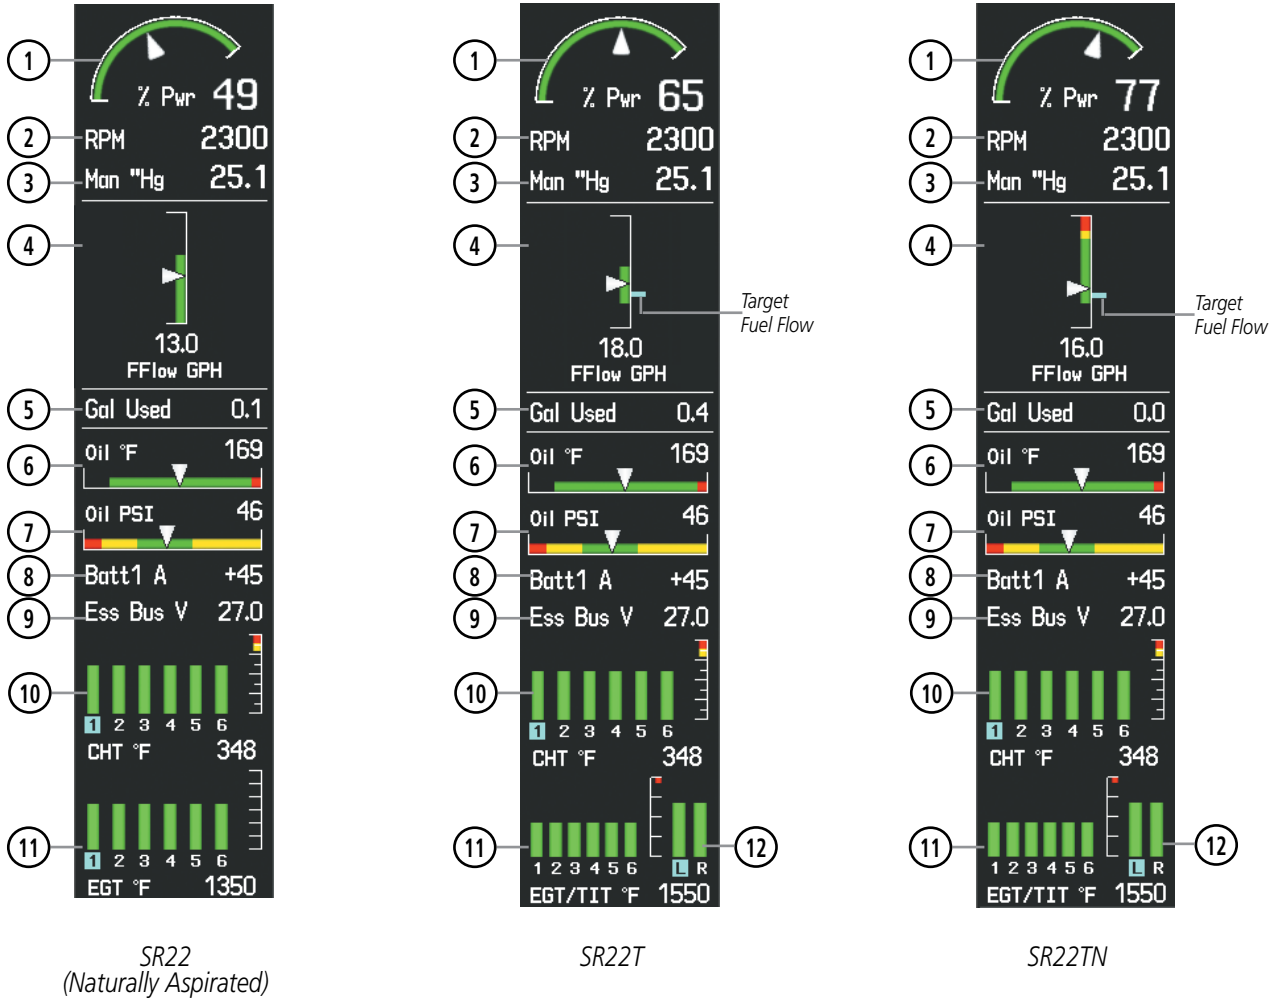

Figure 3-3 EIS Display (SR22)
| ④ | Fuel Flow Indicator (FFlow GPH) | Displays fuel flow in gallons per hour (Turbo models only – displays a light blue target fuel flow indicator to the right of the fuel flow indicator strip, shown in Figure 3-3) |
| | Exhaust Gas Temperature/ Turbine Inlet Temperature Indicator (EGT/TIT °F) | Displays the exhaust gas temperature and turbine inlet temperature (cylinder number or turbine inlet side is shown below bar) (Turbo models only, shown in Figure 3-3) |
| ⑫ | Left and Right Turbine Inlet Temperature | Displays the temperature at the left (L) and right (R) turbine inlet (Turbo models only, shown in Figure 3-3). |